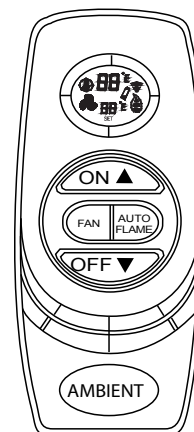

Figure 60
2. During system reset, all features of the LCD DISPLAY will be visible. After one second, the LCD will be initialized. A typical reset display is shown in Figure 60. Note the temperature scale is degree F.